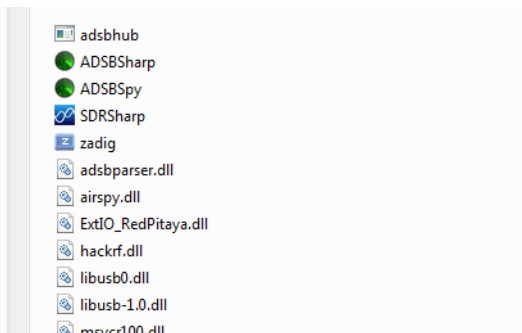

Figure 9-3 SDRSharp program
2. To run SDR#, go to the directory where you unzipped the file and double-click SDRharp (see Figure 9-3).